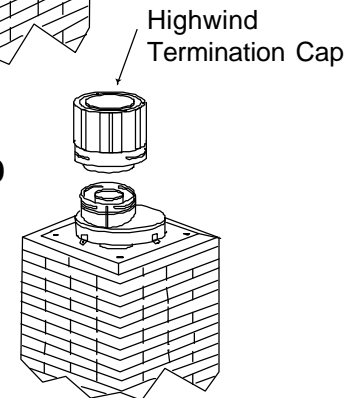

FIG. 9
**Step 8.** Twist lock the high wind termination cap (SDV part #991) to the top adaptor (see Figure 9). **Do not use any other termination cap.**